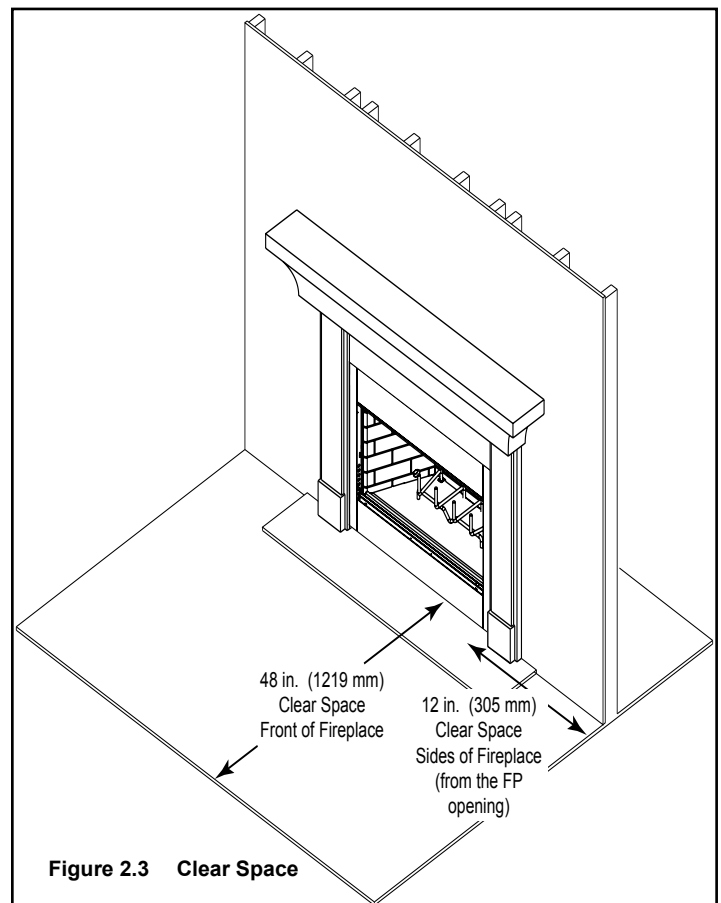

Figure 2.3 Clear Space
- Do not place combustible objects within areas indicated in Figure 2.3.